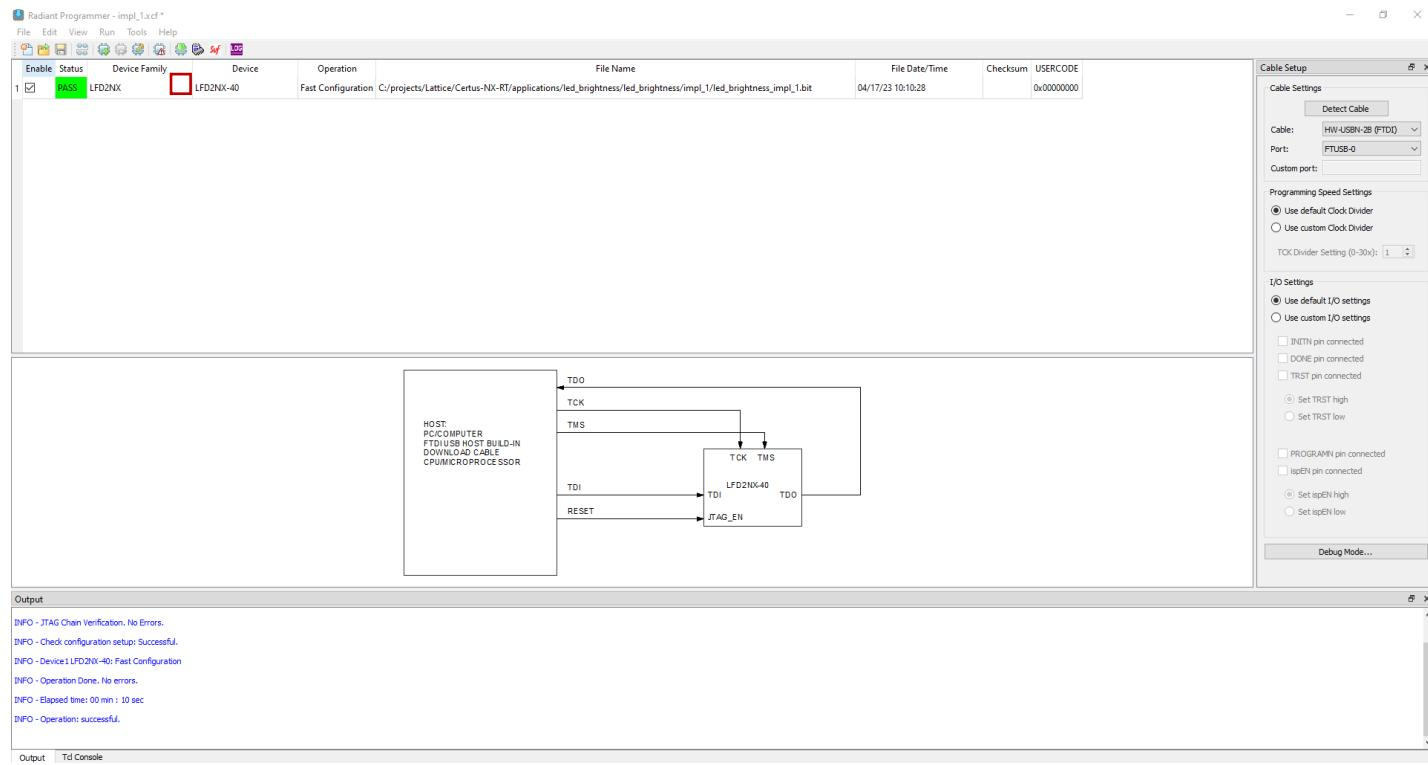

Figure 18: Programming the FPGA
22. From the **Tools** menu, select **Programmer** and a new window opens, see **Figure 18**.
- Figure 18.**